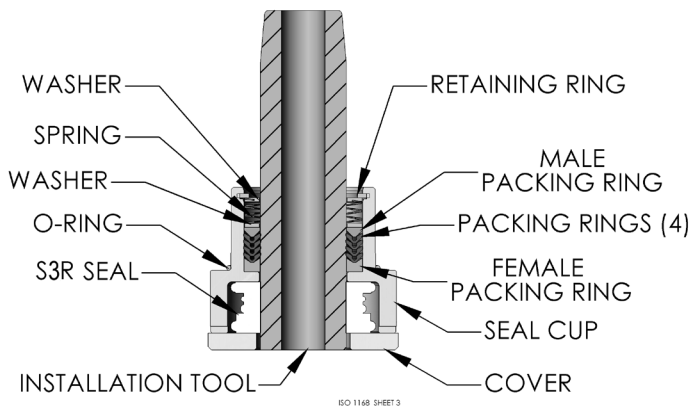
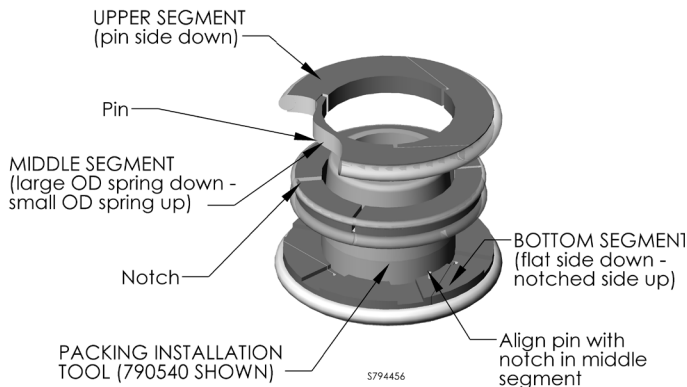

Figure 16a – Seal Cup Assembly
Figure 16b - S3R Oil Seal Installation
- g. Install the S3R seal in the seal cup as shown in figure 16a. Place the S3R seal on the packing installation tool in the order shown in figure 16b, with the upper segment toward the tapered end of the installation tool. Insert the installation tool, with the S3R seal, into the seal cup, with the tapered end toward the packing rings. Place seal cup cover on seal cup and secure with two capscrews.